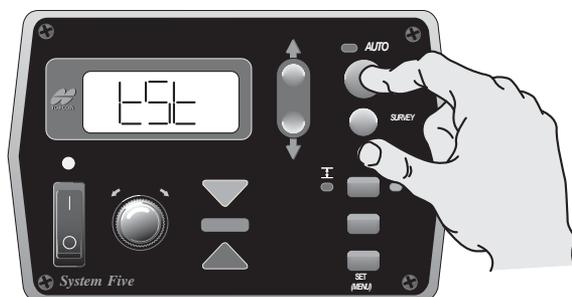

Figure 4-43. Select Test Mode
1. From the Performance Menu, press the Auto button to select Test Mode (Figure 4-43).